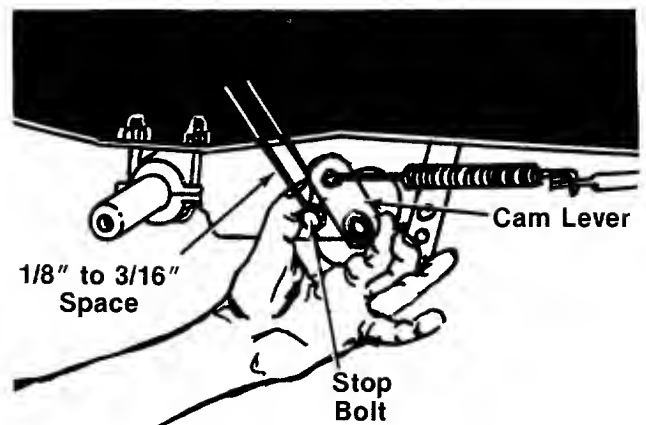

FIGURE 19.
2. Loosen the inside nut until the cam lever can be pushed forward so that there is a 1/8" to 3/16" space between the cam lever and stop bolt. See figure 19.